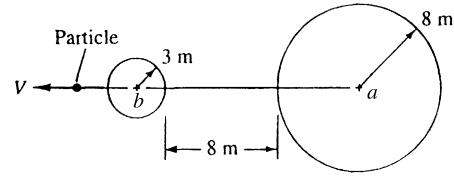

Fig. P9.119
**9.119** The particle in Fig. P9.119 is moving supersonically in sea-level standard air. From the two disturbance spheres shown, compute the particle (a) Mach number; (b) velocity; and (c) Mach angle.